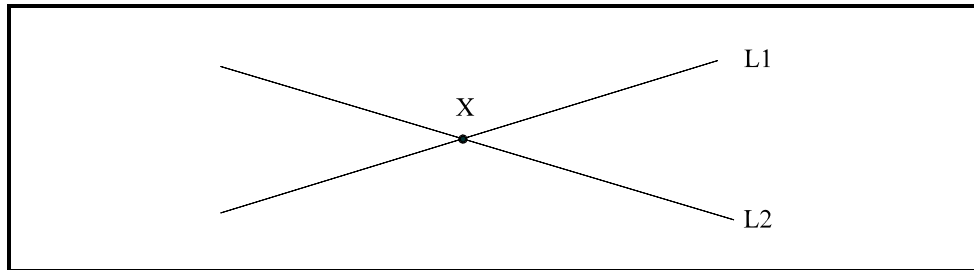

Figure 2.5.1. True intersection example
True intersections: When two vectors cross each other, the crossover point (X) is called a true intersection (*Figure 2.5.1*)